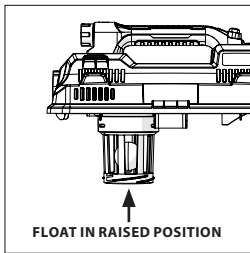

FIG. 3
- This wet/dry vac is equipped with a float mechanism which will rise automatically to cut off the airflow when the liquid in the tank reaches a predetermined level. When this happens, turn off the vac, remove the battery, and empty the dust tank. You will know that the float has shut the airflow off because the suction ceases and the motor noise becomes higher in pitch due to increased motor speed. The liquid capacity may vary with the rate of pickup. (Fig. 3)